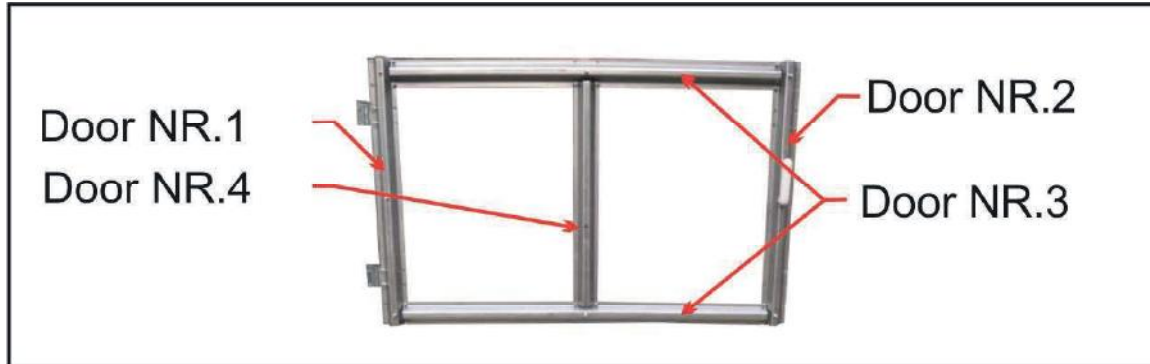

Fig. 24.2
Connect all parts supplied in the set of the upper part of the door (DOOR No. 1; DOOR No. 2; DOOR No. 3) into a rectangle with M5-12 bolts (27) and M5 nuts (30). Tighten vertical parts of the door to the assembled frame (DOOR No. 4) (Fig. 24.2).